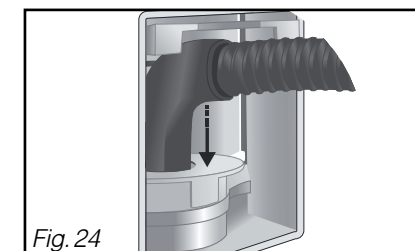

Fig. 24
- Connect the hose from the kit to the end connector on the appliance (Fig. 24).